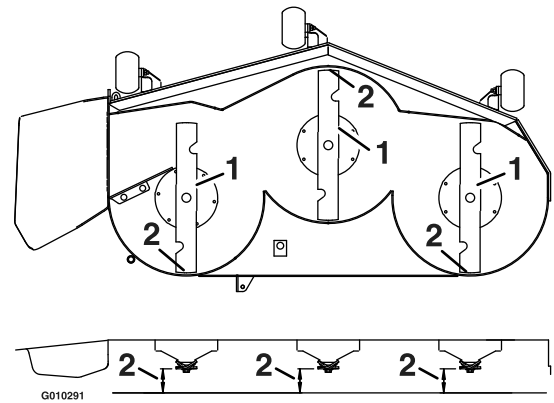
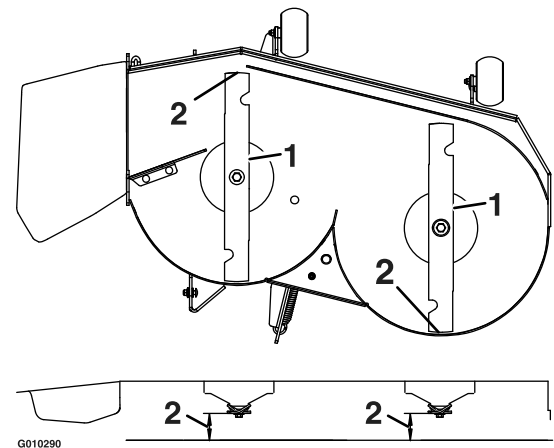

Figure 44
Figure 45
- Carefully rotate the blades so they are facing front to rear (Figure 44 and Figure 45).
- Measure from the tip of the front blade to the flat surface and the tip of the rear blade to the flat surface (Figure 44 and Figure 45). If the front blade tip is not “R” (see Block Height and Rake Table in **Leveling the Mower Deck**) lower than the rear blade tip, adjust the front deck hanger.